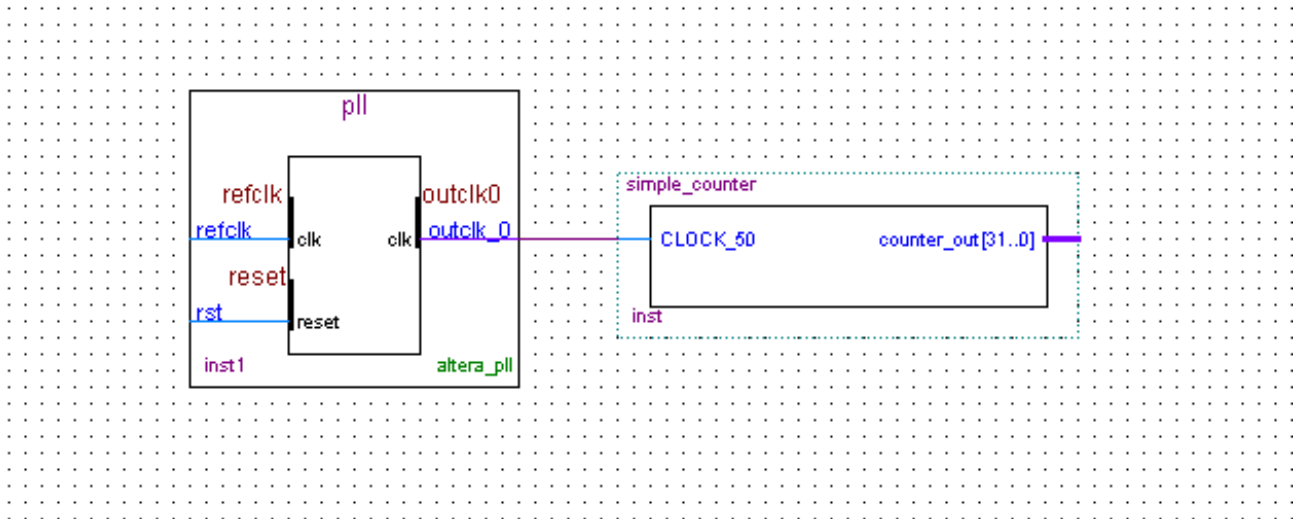

Figure 3-16 Draw a Bus Line connect pll outclk_0 port to simple_counter CLOCK_50 port
12. Click and drag a bus line from the outclk_0 output to the simple_counter clock input. This action ties the pll output to the simple_counter input (see **Figure 3-16**).